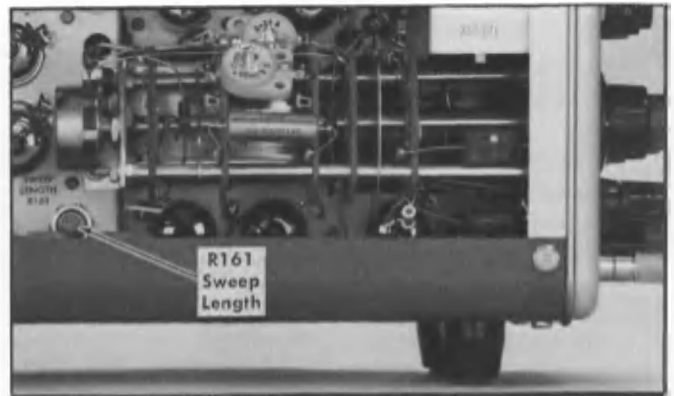

Fig. 5-17. Location of Sweep Length adjustment (left side).
c. ADJUST—Sweep Length adjustment, R161 (see Fig. 5-17), for a sweep length of 10.5 divisions (0.5 division of deflection to the right of the tenth vertical line).